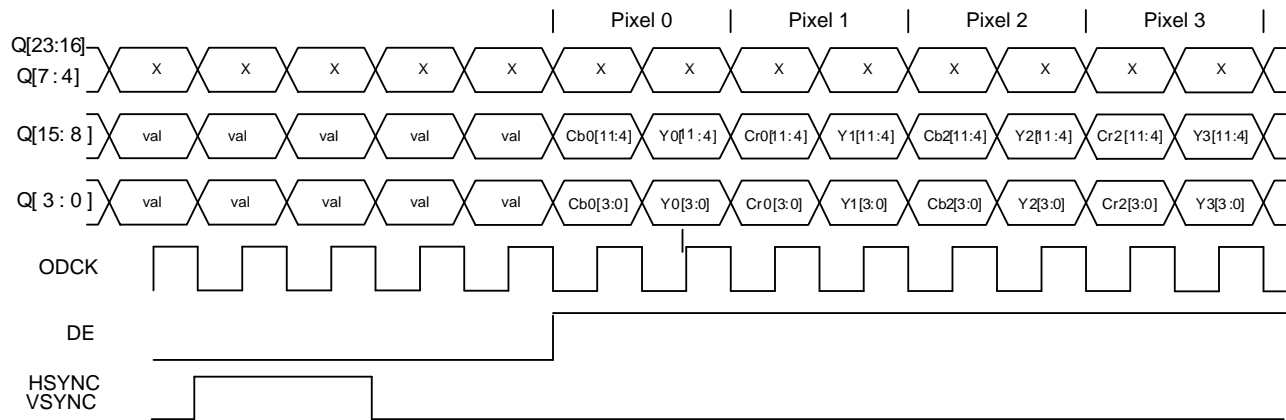

Figure 24. YCbCr Mux 4:2:2 Timing Diagram
The video data is multiplexed onto fewer pins than the mapping in Table 29, but complete luminance (Y) and chrominance (Cb and Cr) data is still provided for each pixel because the output pixel clock runs at twice the pixel rate. Figure 24 shows the 24-bit mode. The 16- and 20-bit mappings use fewer output pins for the pixel data. Note the separate syncs. Figure 11 shows OCLKDIV = 0 and OCKINV = 1.